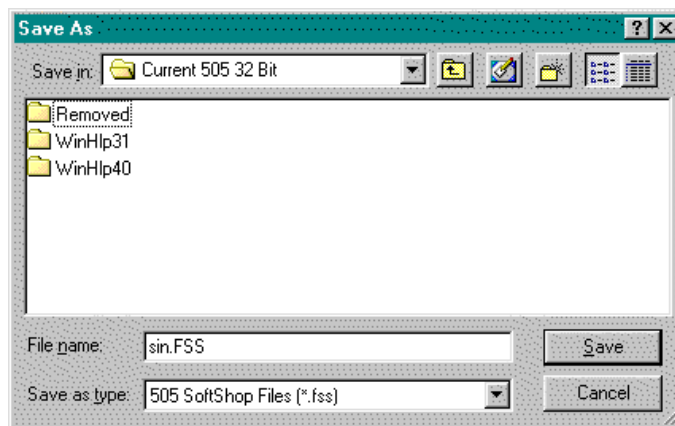

Figure 3.10
2. If the program has not been previously saved, the Save As dialog box appears (Figure 3.10). Select the desired location to save the program, and type in a name for the program in the File name field.
Result: The Save As dialog box appears (Figure 3.10).